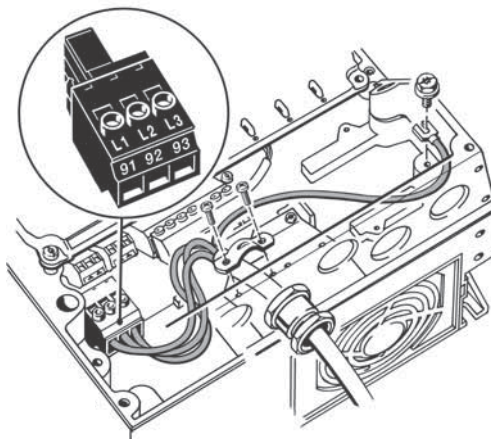

Fig. 12 Mains connection, A4 and A5
1. Connect the earth conductor to terminal 95 (PE). See fig. 12.